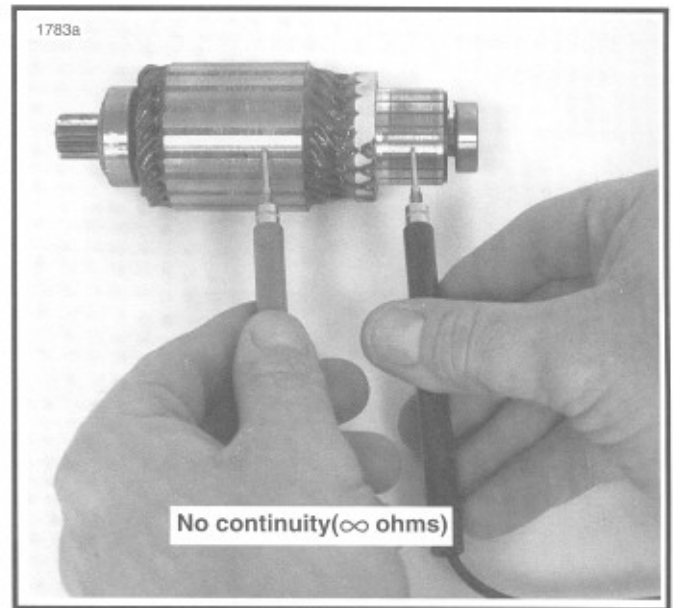

Figure 5-15. Grounded Armature Test
10. See Figure 5-15. Check for a **GROUND**ED ARMATURE with an ohmmeter or continuity tester. Touch one probe to any commutator segment. Touch the other probe to the armature core. There should be no continuity (infinite ohms). If there is continuity, then the armature is grounded. Replace a grounded armature.